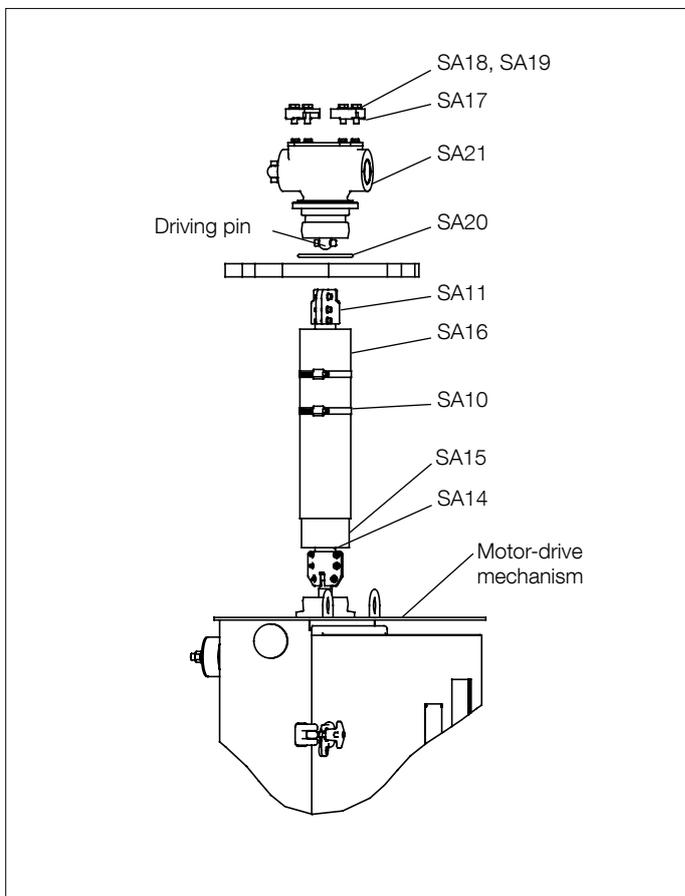

Fig. 50.
1. Mount the bevel gear SA21 on the transformer with an O-ring, SA20, clamps SA17 screws and washers; see Figs. 50 and 51.